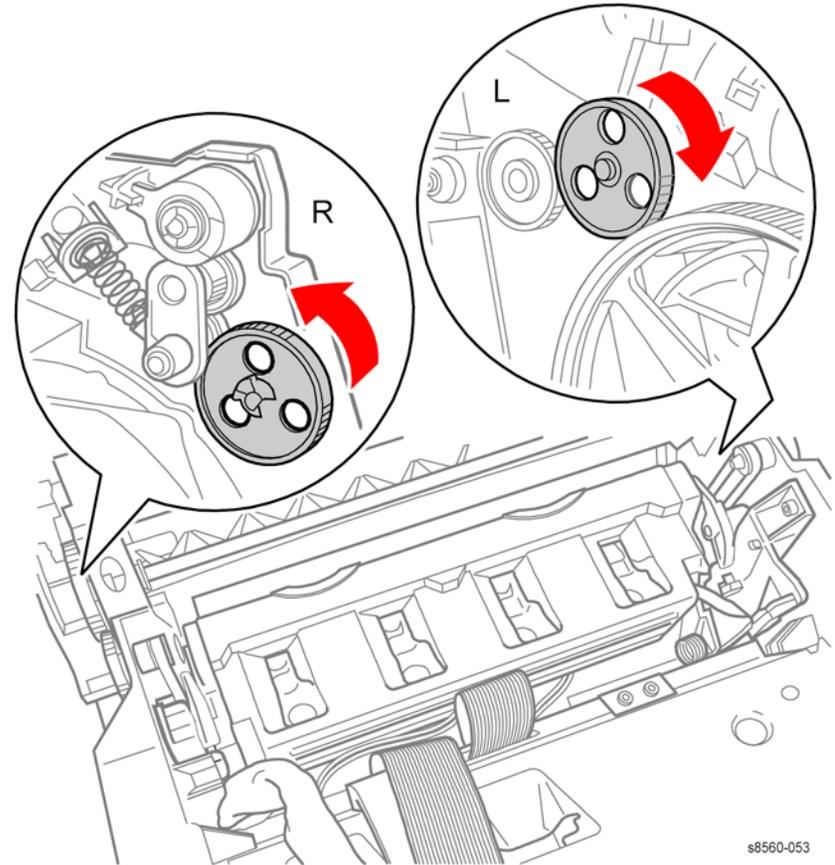

Figure 2 Lowering the Printhead Wiper Assembly
8. Lower the Printhead Wiper Assembly completely by rotating the Wiper drive gears as shown in Figure 2.